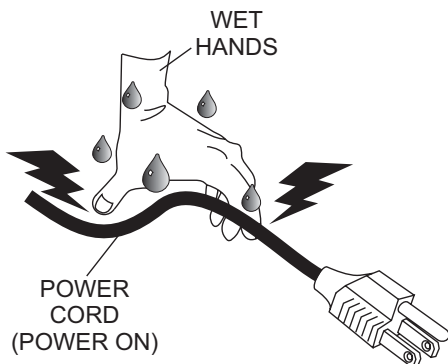

Figure 17. Extension Cord (Wet Hands)
**NEVER!** touch the power cord (Figure 17) with *wet hands* or while *standing in water* when it is connected to a power source. The possibly exists of electrical shock (electrocution) even death. **NEVER!** spray water directly on the electric motor.